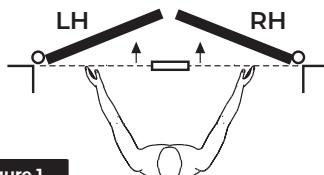

Figure 1
1. Determine hand of door for proper placement of pivot set. (Figure 1)